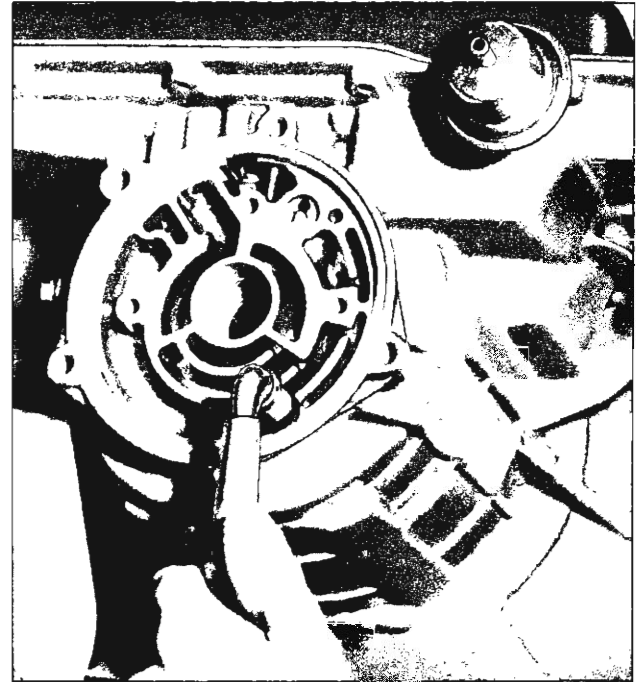

Fig. 14PG—Applying Air to Remove Rear Piston
20. Remove the rear piston by applying air to the reverse port in the rear of the transmission case as shown in Figure 14PG. Remove the inner and outer seals.